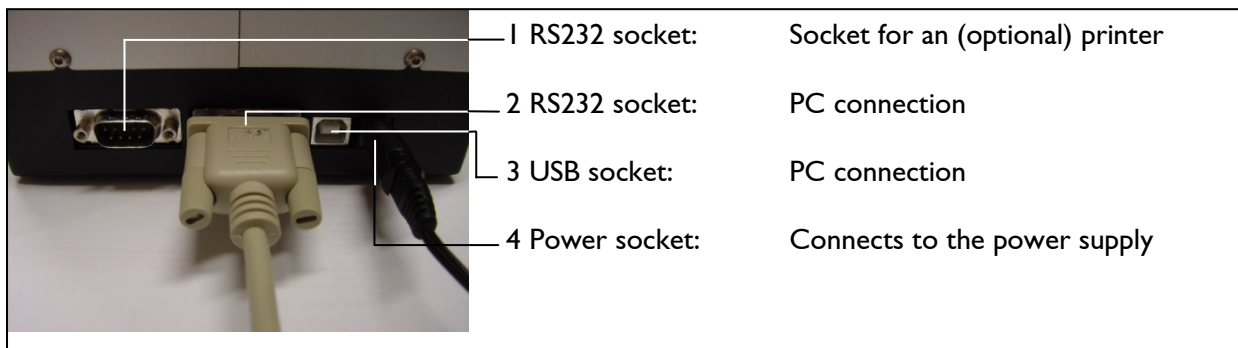

Figure 4
- Insert the plug from the power supply unit into the power socket on the back of the machine (Figure 4).